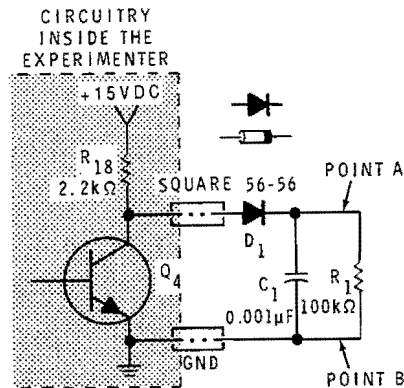

Figure 2-8
1. While the POWER switch on your Trainer is off, construct the RC filter circuit shown in Figure 2-8. Notice that  $Q_4$  and  $R_{18}$  are inside the Trainer and are shown for explanation purposes only. Then wire the filter circuit to the Generator SQUARE output on the Trainer. When the wiring is complete and correct, turn on the Trainer. NOTE: As a general rule, it is a good idea to always turn the Trainer off each time you are making major changes in circuitry.
In Figure 2-8, square-wave pulses are used to charge a capacitor through a diode. The leading edge of the square wave is produced when output transistor  $Q_4$ , which is located inside the Trainer, is turned off. As the collector voltage rises, diode  $D_1$  conducts, acting like a low value resistor. Capacitor  $C_1$  then quickly charges through resistor  $R_{18}$  to about 15 volts.